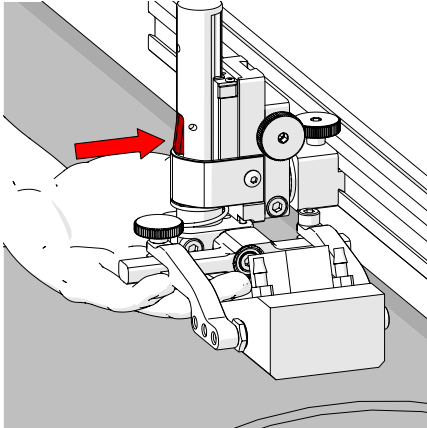
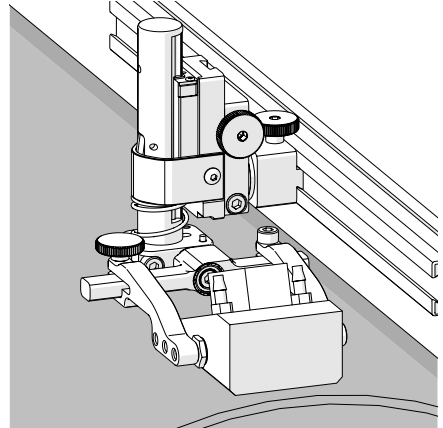

Fig. 150 - Press latch button
Fig. 151 - Lower toward scan surface
4. Lift the yoke slightly and press the latch button (Fig. 150), then slowly lower towards scanning surface to apply spring pressure to the wedge (Fig. 151).